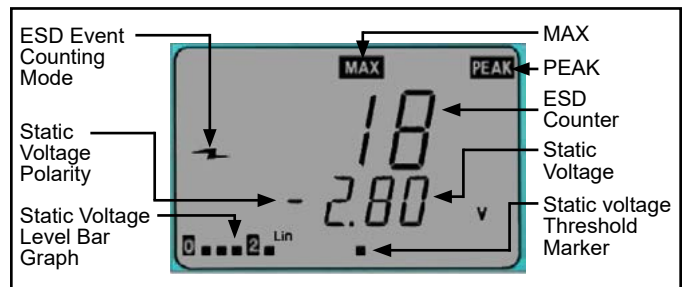

Figure 13. Static Voltage Field channel
1. Toggle the joystick until the Static Voltage channel is displayed (Figure 13).